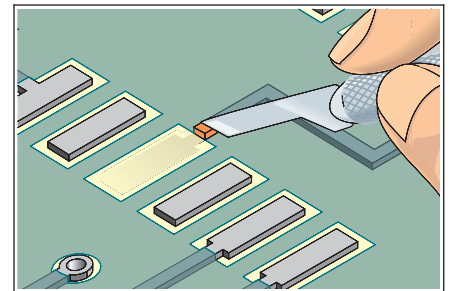

Figure 2 Scrape off solder resist.
4. Scrape off any solder resist or coating from the connecting conductor. (See Figure 2.)